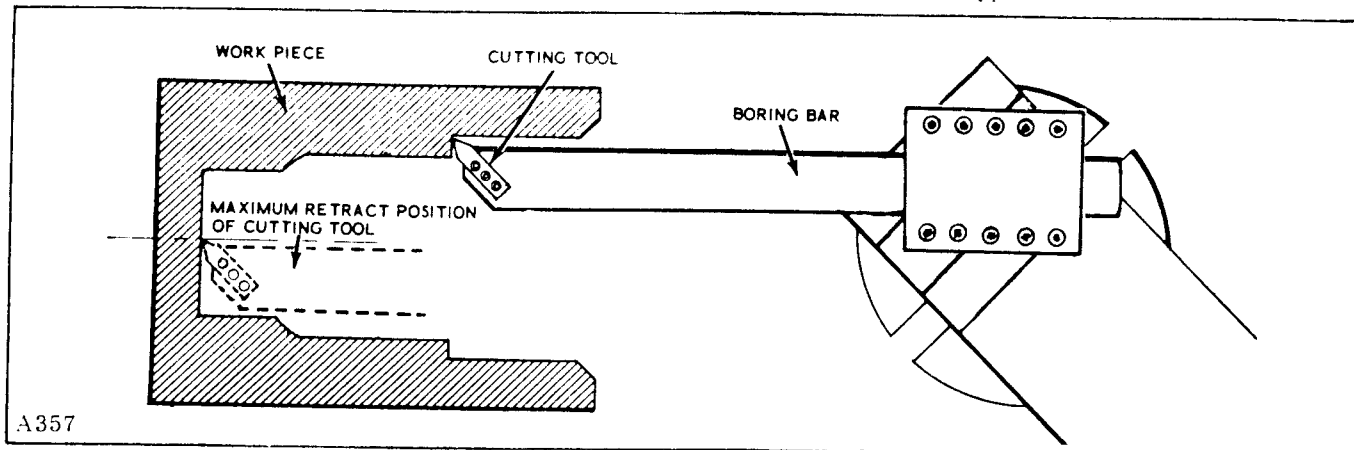

Figure 3-19. Typical Set up for a Boring Operation
a. Whenever possible, position the tracer slide so that when the slide is in its retract position with the boring bar in place, the boring bar does not retract into the work piece (see figure 3-19).